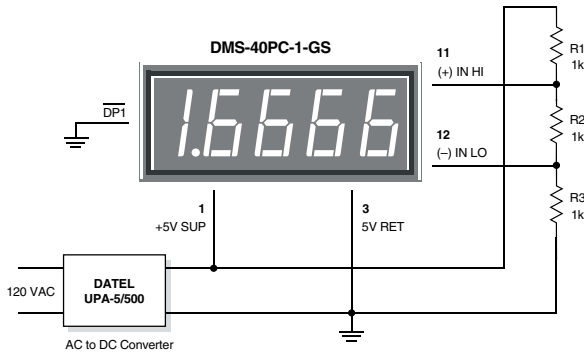

Figure 3. Differential Input Configuration
2. Differential Input Configurations: Differential inputs can also be measured with DMS-40PC meters as shown in the circuit in Figure 3. Differential inputs must also originate from power supplies that have a common ground with the meter's 5V RETURN (pin 3). However, differential inputs usually have both terminals above and/or below 5V RETURN. Figure 3, though not necessarily a typical real-world application, does serve the purpose of illustrating the concept of a differential signal.